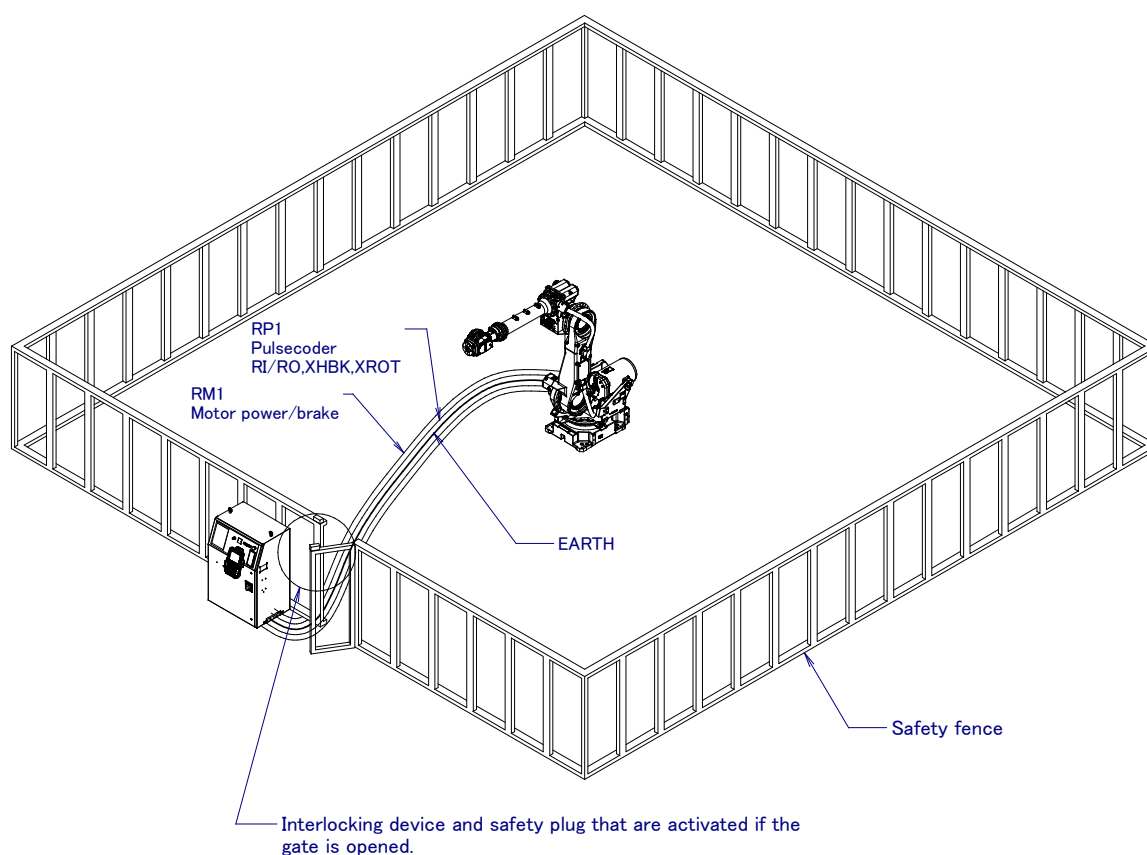

Fig. 3 (a) Safety fence and safety gate
- (14) Before the robot is started, it should be checked that no one is in the area of the safety fence. At the same time, a check must be made to ensure that there is no risk of hazardous situations. If detected, such a situation should be eliminated before the operation.
- (15) Do not operate the robot under the following conditions. Otherwise, the robot and peripheral equipment can be adversely affected, or workers can be severely injured.
- (16) When connecting the peripheral devices related to stop(safety fence etc.) and each signal (external emergency , fence etc.) of robot, be sure to confirm the stop movement and do not take the wrong connection.
- (17) In preparing the trestle, please secure the maintenance engineer safety at high place in reference to Fig. 3 (c). Design with the Scaffolding and Safety-belt with circumspection.